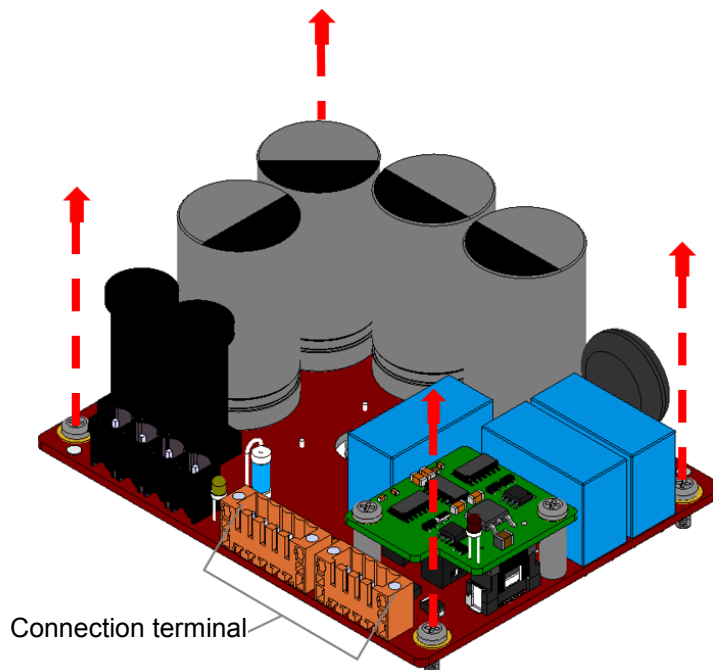

Figure 5-12 Remove the QBUS module
Step 4 Use the cross screwdriver to remove the fastening screws from the QBUS module, as shown in Figure 5-12.